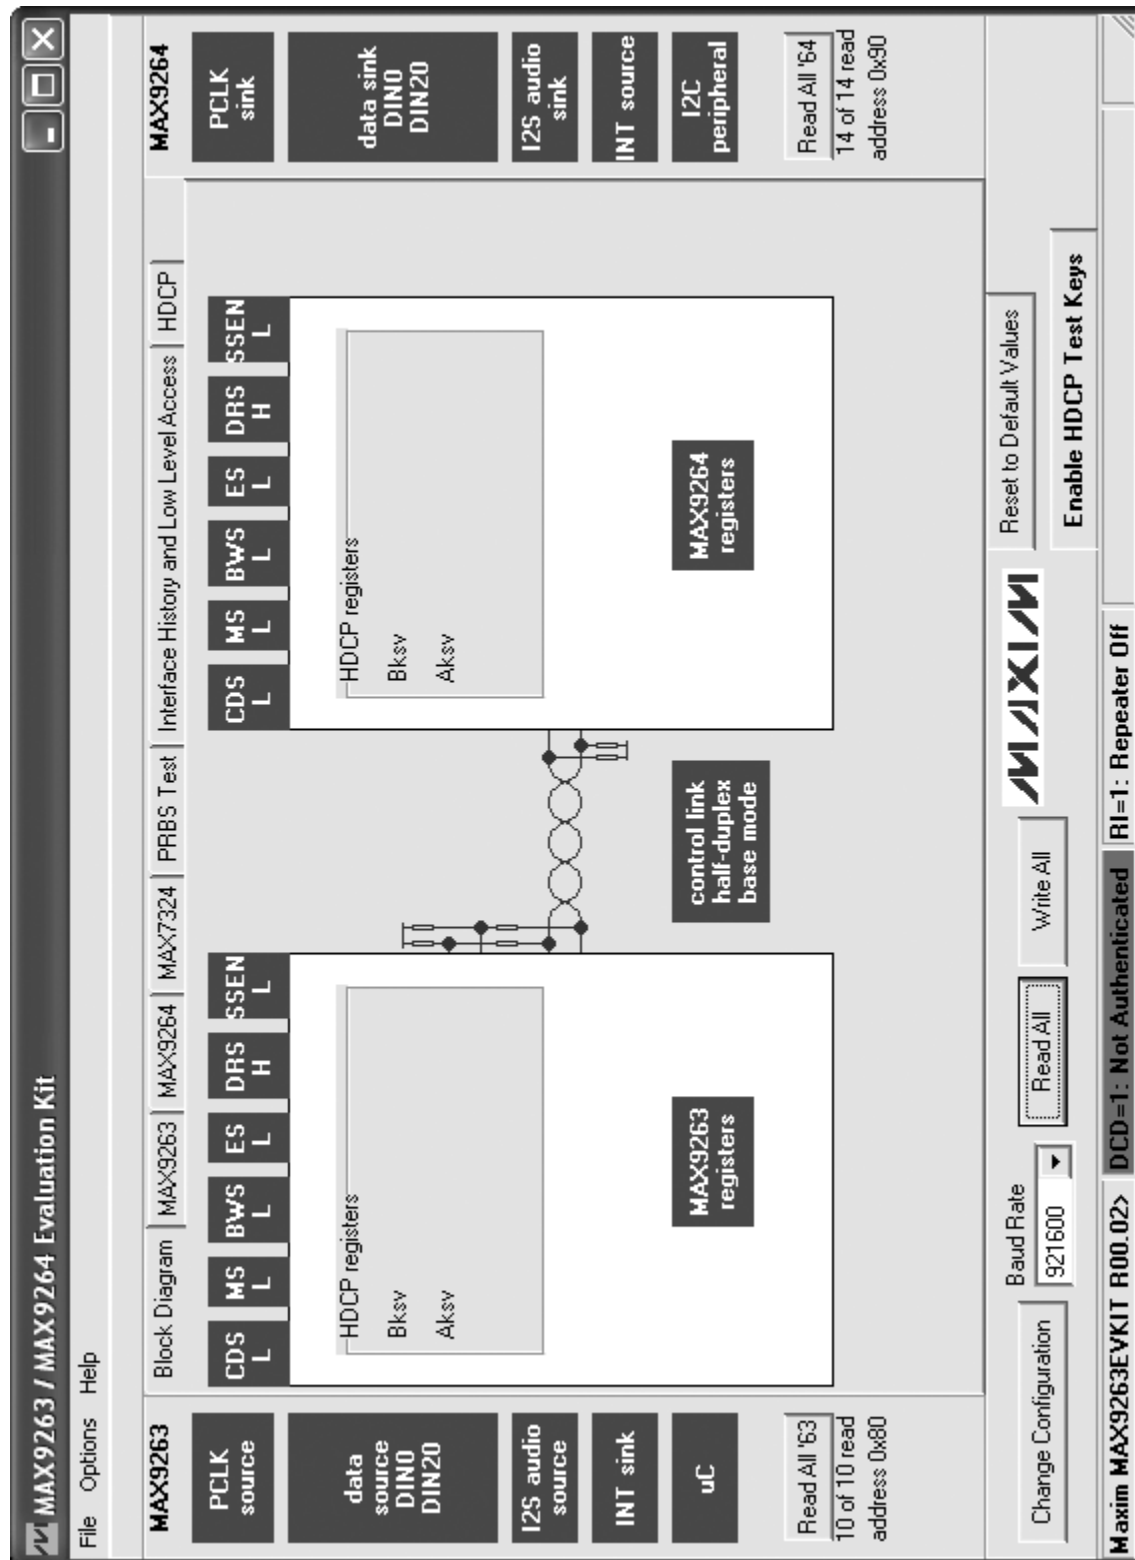

Figure 1. MAX9263/MAX9264 EV Kit Software Main Window (Block Diagram Tab)
- 15.4) The EV kit software main window appears, as shown in Figure 1. When using the repeater firmware, the EV kit software tries to read the registers while the repeater firmware is busy authenticating the display, so initially the Figure 1 window may show failed reads. *This is not an error.*
The main window of the evaluation software (Figure 1) shows a block diagram representing the MAX9263/MAX9264 system. The left column shows MAX9263 input data sources and the right column shows MAX9264 output data sinks.